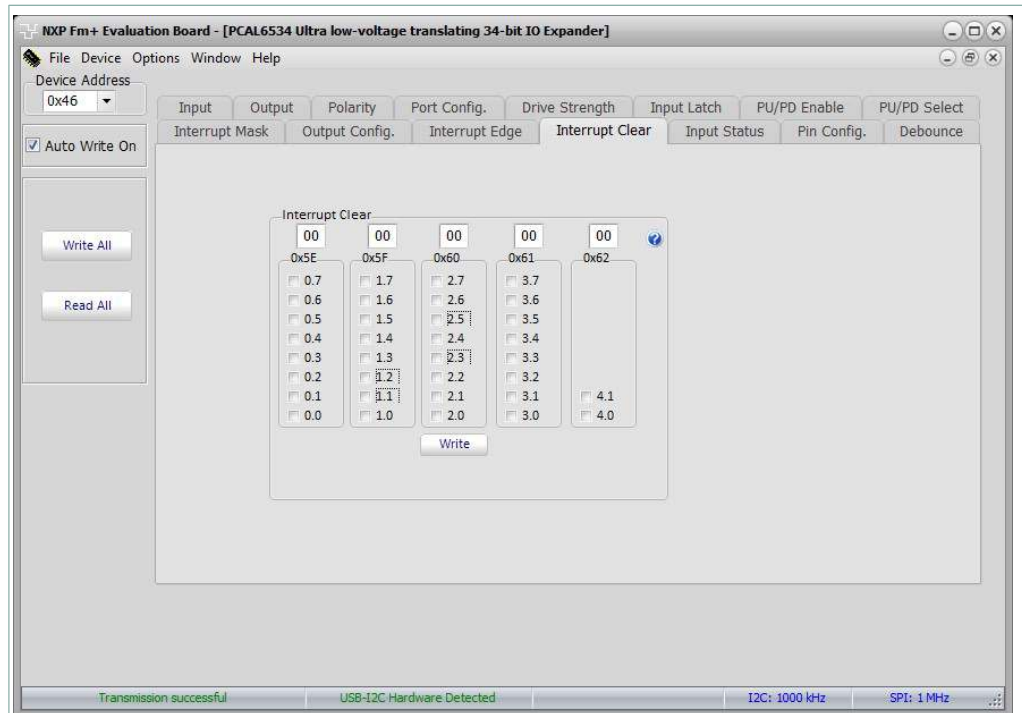

Figure 21. Device configuration screen for registers 5E-62 hex
13. Interrupt Clear registers write are shown in Figure 21.